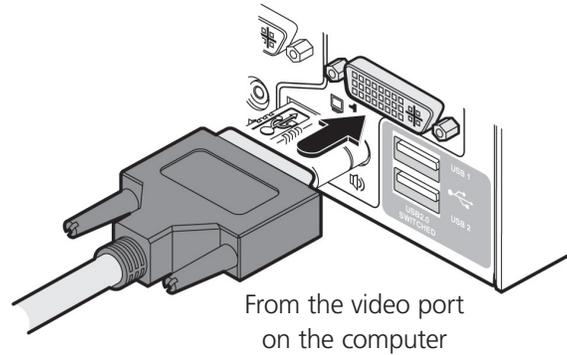

Figure 3-8. Connecting the video output to the DVI-I port.
- 4. Single-head units: Use a DVI cable or a VGA to DVI-I adapter cable (if using analog signals) to link the video output of the computer's graphic port to the DVI-I port of the required channel on the rear of the unit. See Figure 3-8.